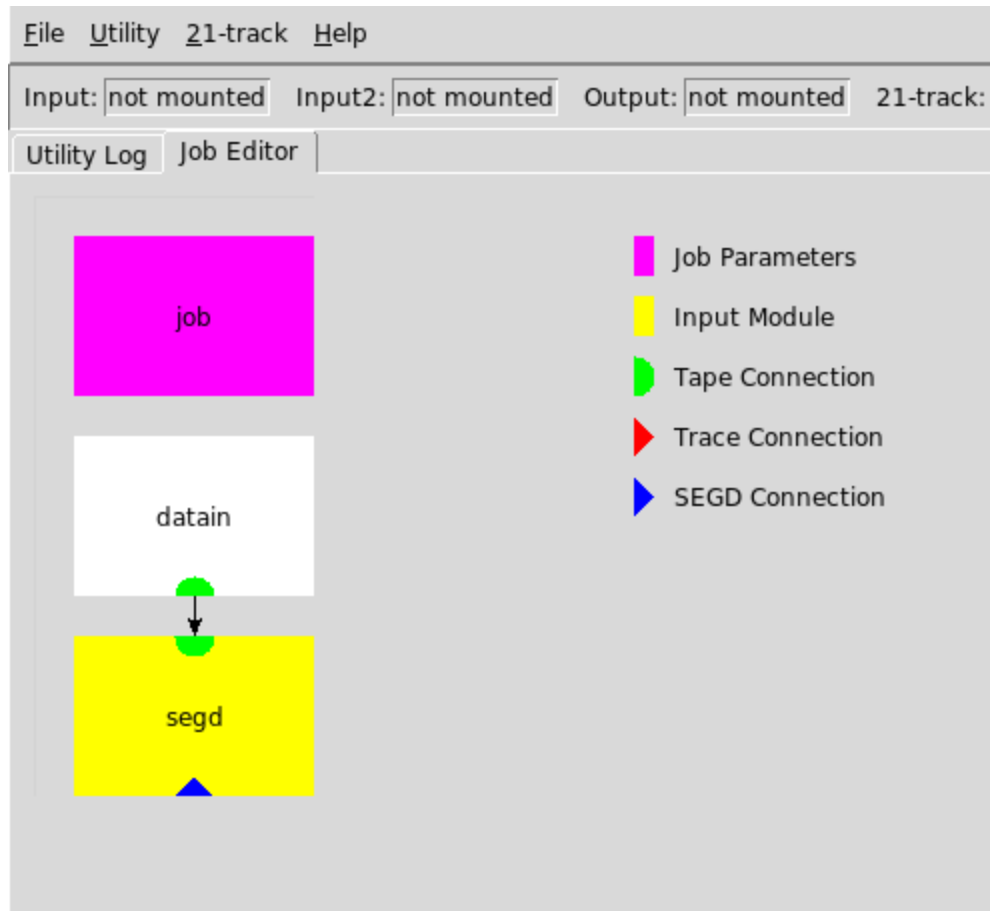

Figure 4-12 Main Magma job window showing the datain module
7. Click **OK**. The **Tape Data Source** window will close and you will be returned to the main Magma job screen. The **datain** module will be added to the workflow (Figure 4-12 on the next page).